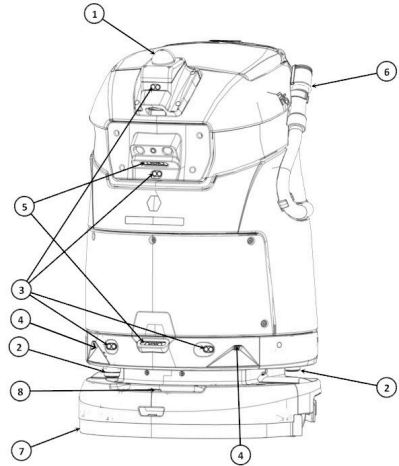

Figure 1
1. lidar 3D (Figure 1)
2. lidar 2D (Figure 1)
3. sonar (Figure 1)
4. sensor time-of-flight (Figure 1)
5. kamera tal-fond (Figure 1)
6. pajp tat-tbattil tat-tank tal-irkupru (Figure 1)
7. Front skirt (Figure 1)
8. gankju tal-helsien tal-ġhata tar-ras tat-tindif (Figure 1)